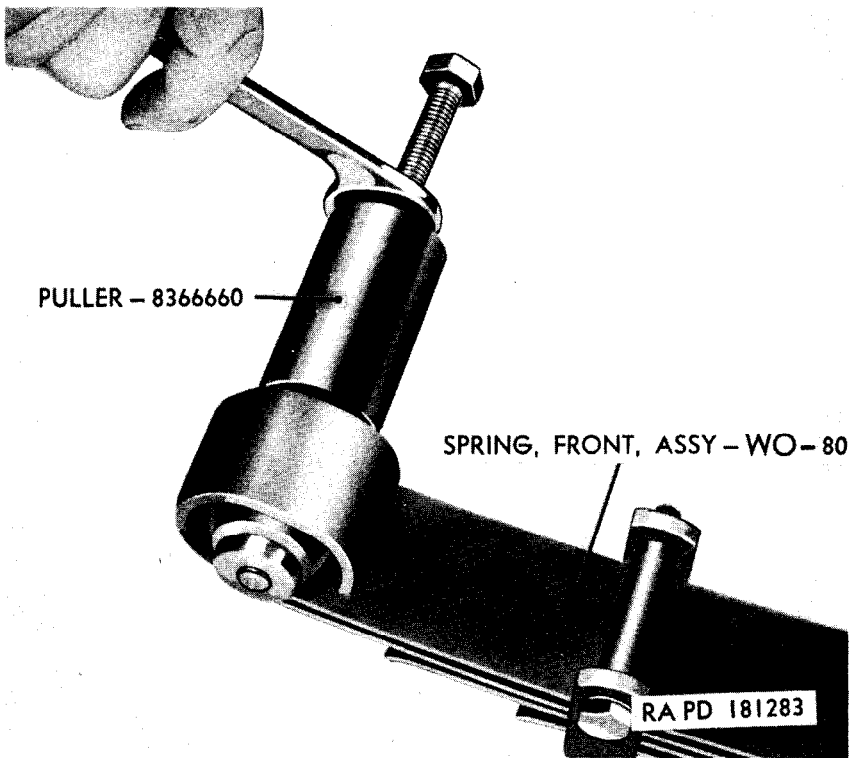
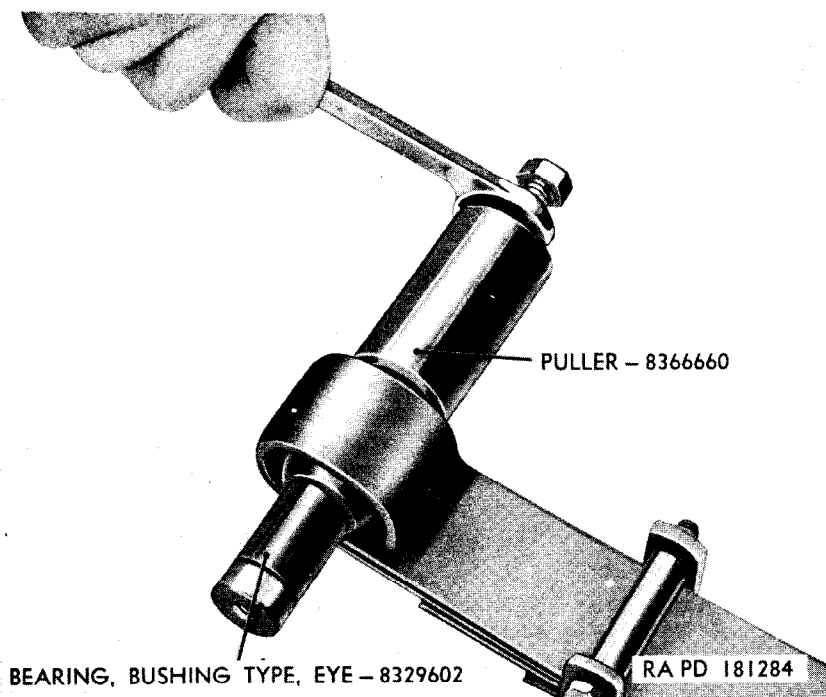

Figure 147. Removing bushing type eye bearing.
Figure 148. Installing bushing type eye bearing.
- (2) *Bushing type eye bearings.* If it is necessary to replace a bushing type eye bearing, remove it from the spring eye with puller 8366660 (fig. 147). Install a new bearing with the same tool (fig. 148).
- (3) *Shackle grease seals and mounting pin bushings.* Replace all shackle grease seals and mounting pin bushings at each overhaul.
- (4) *Rebound clips.* Place new rebound clips (outer, intermediate, or inner) in place on spring leaf, install new rebound clip, rivet, and swage tight.